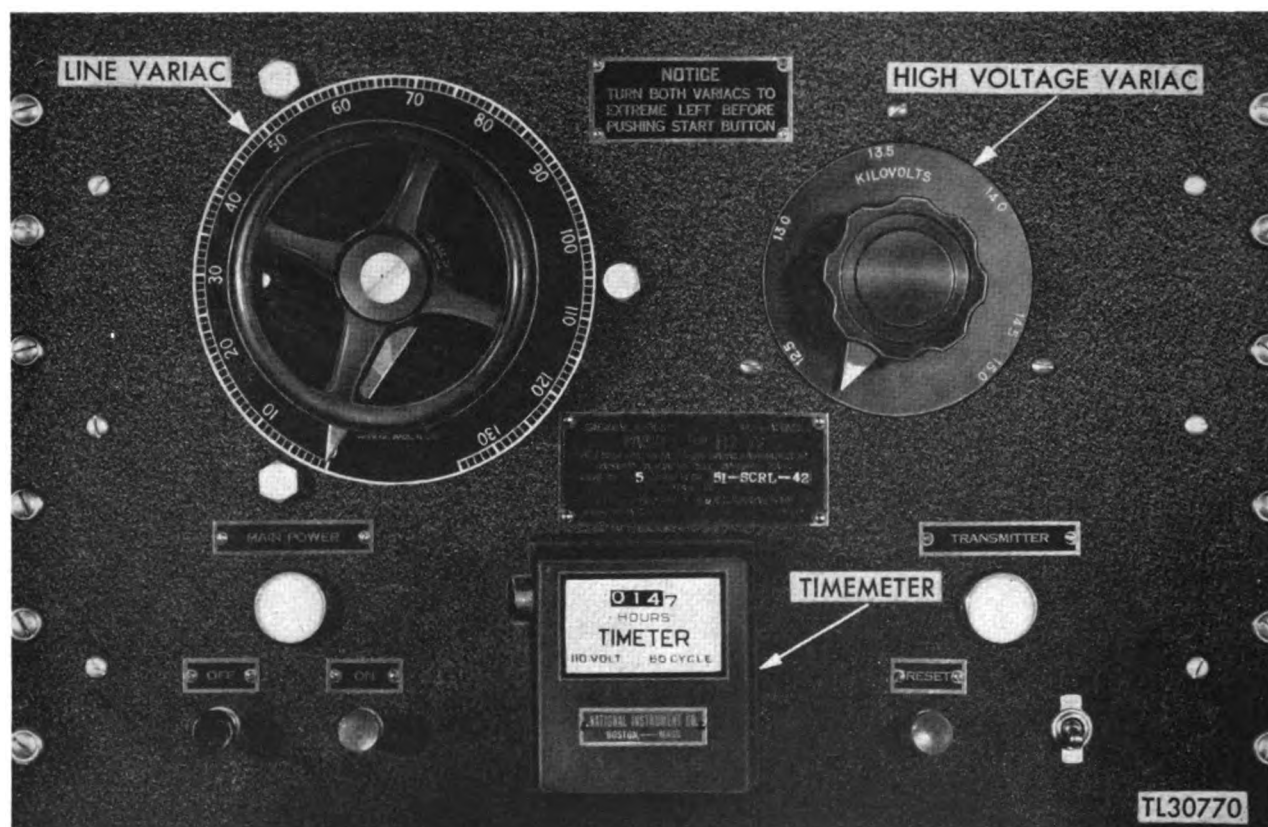

Figure 55. Control cabinet power control panel.
a. If the input voltage of the control rack is not within 1 volt of the optimum value, check item 16, line voltage of the power unit. Adjust the line variac (fig. 55) for the optimum input voltage.
LOCATION. The Timeter is centered on the lower half of the power control panel (fig. 55).
LOCATION. The high-voltage variac is located in the upper right-hand part of the control cabinet power control panel (fig. 55).